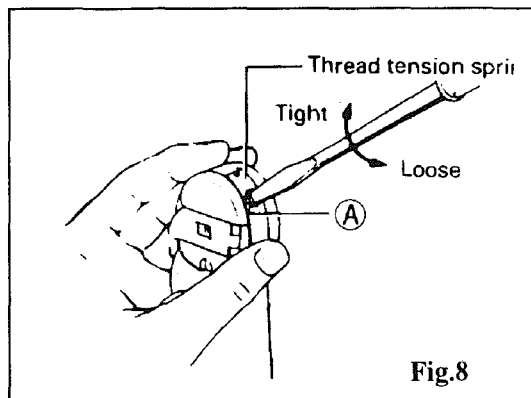

Fig.8
(2) Lower thread tension (Fig. 8)